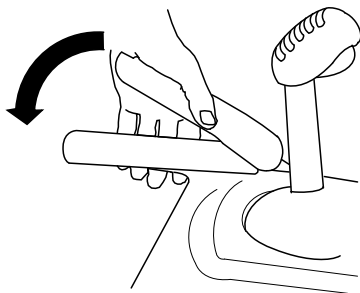

Figure 16
1. To engage the traction drive, squeeze the left (traction) lever to the handgrip (Figure 16).